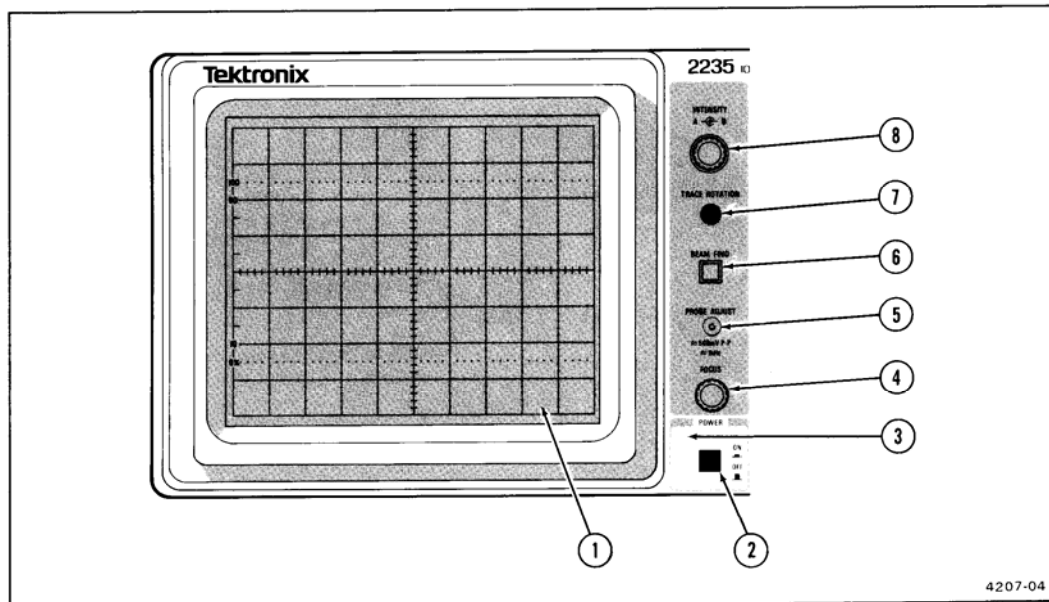

Figure 2-3. Power, display, and probe adjust controls, connector, and indicator.
Refer to Figure 2-3 for location of items 1 through 8.
- ① **Internal Graticule**—Eliminates parallax viewing error between the trace and graticule lines. Rise-time amplitude and measurement points are indicated at the left edge of the graticule.
- ② **POWER Switch**—Turns instrument power on and off. Press in for ON; press again for OFF.
- ③ **Power Indicator**—An LED that illuminates when power is available to the instrument and the POWER switch is set to ON (button in).
- ④ **FOCUS Control**—Adjusts for optimum display definition.
- ⑤ **PROBE ADJUST Connector**—Provides an approximately 0.5-V, negative-going, square-wave voltage (at approximately 1 kHz) that permits an operator to compensate voltage probes and to check operation of the oscilloscope vertical system. It is not intended for verifying the accuracy of the vertical gain or time-base circuitry.
- ⑥ **BEAM FIND Switch**—When held in, compresses the display to within the graticule area and provides a visible viewing intensity to aid in locating off-screen displays.
- ⑦ **TRACE ROTATION Control**—Screwdriver adjustment used to align the crt trace with the horizontal graticule lines.
- ⑧ **A and B INTENSITY Controls**—Determine the brightness of the A and the B Sweep traces.